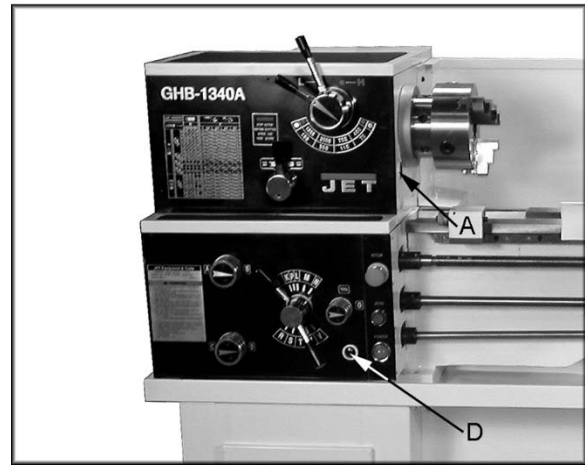
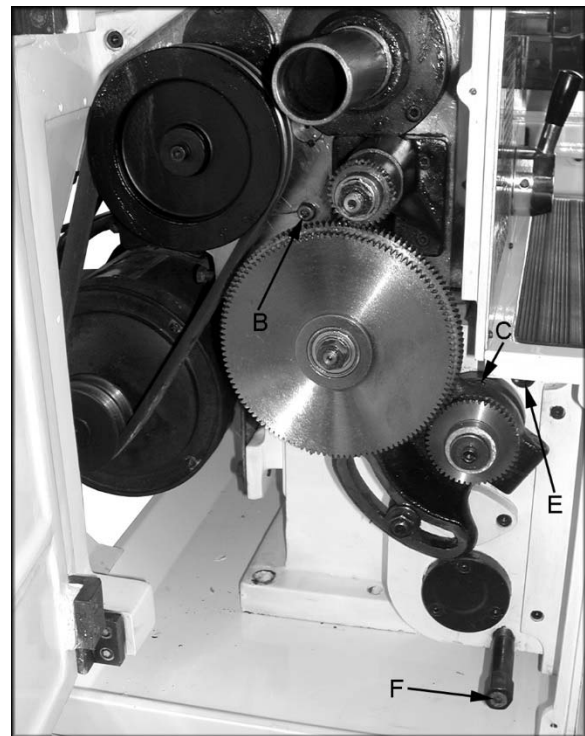
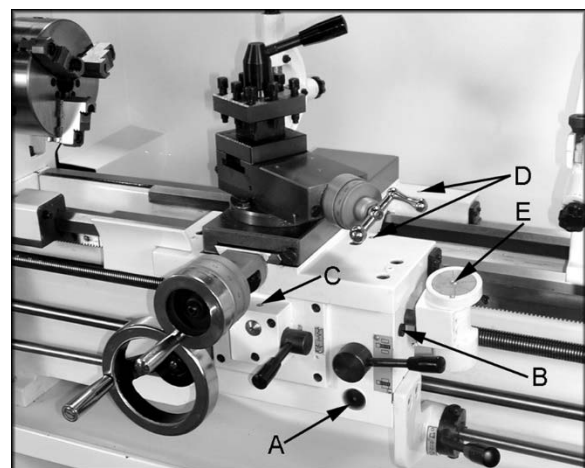

Figure 5
Figure 6
Figure 7
1. **Headstock** - Oil must be up to indicator mark in oil sight glass (A, Fig. 5). Top off with Mobil DTE® Oil Heavy Medium. Fill by pulling plug located on top of the headstock cover, underneath the rubber mat. Drain oil by removing drain plug (B, Fig. 6) and refill after the first month of operation. Clean out any metal shavings. Then, change oil in the headstock annually.
2. **External Gears** - Coat all gears with a heavy, non-slinging grease, see Figure 6.
3. **Gear Shaft** - Remove the set screw (C, Fig. 6) and oil with a couple drops of Mobil DTE® Oil Heavy Medium once weekly.
4. **Gearbox** - Oil must be up to indicator mark in oil sight glass (D, Fig. 7). Top off with Mobil DTE® Oil Heavy Medium. Fill by removing plug (E, Fig. 6). Drain oil by removing drain plug (F, Fig. 6) and refill after the first month of operation. Then, change oil in the gearbox annually.
5. **Apron** - Oil must be up to indicator mark in oil sight glass (A, Fig. 7). Top off with Mobil DTE® Oil Heavy Medium. Fill by removing oil plug (B, Fig. 7). After the first three months of operation, drain oil completely (drain is on the bottom of the apron) and refill with Mobil DTE® Oil Heavy Medium, or equivalent to the indicator line. Then, change oil annually.
6. **Feed Selector** - Lubricate ball oiler (C, Fig. 7) once daily with Mobil DTE® Oil Heavy Medium.
7. **Carriage** - Lubricate two ball oilers (D, Fig. 7) once daily with Mobil DTE® Oil Heavy Medium.
8. **Threading Dial Indicator** - Lubricate ball oiler (E, Fig. 7) once daily with Mobil DTE® Oil Heavy Medium.